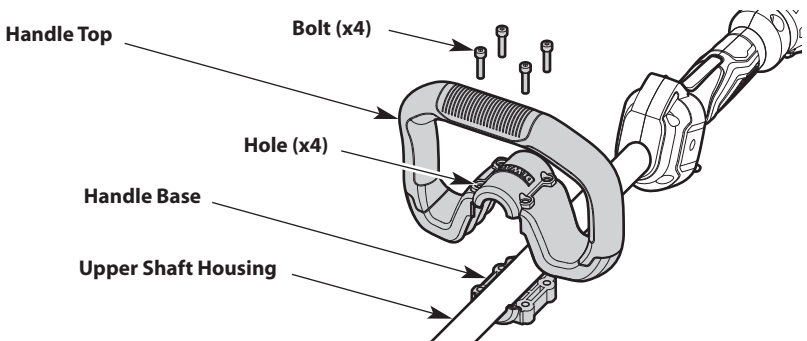

Fig. 8
1. Press and hold the handle base against the underside of the upper shaft housing (Fig. 8).
2. Press the handle top onto the handle base until they snap together (Fig. 8).
3. Insert the bolts (x4) into the holes (x4) (Fig. 8).
1. Loosen the bolts slightly (Fig. 8). Use a 5/32-inch (4 mm) Allen wrench.